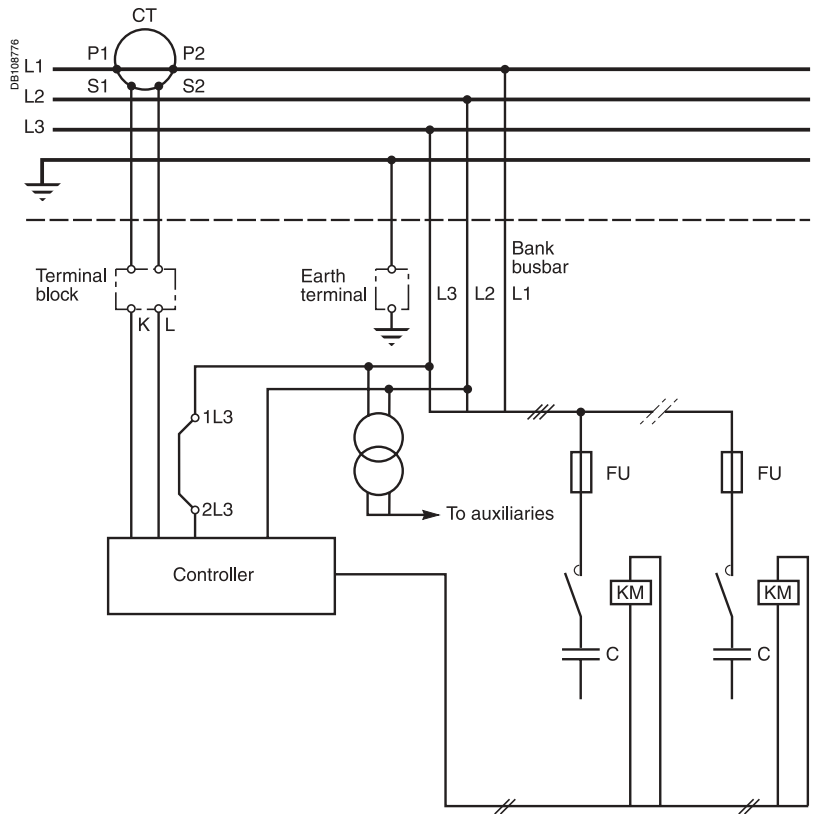

Fig. 4: schematic wiring diagram, standard type enclosures.
Electrical connection is based on the wiring diagrams (page 4, fig. 4 and 5). For power connection, a protective device must be provided in some cases.
- connect the information from the CT, S1 on terminal K and S2 on terminal L of the terminal block (fig. 4, 5 and 6).
- open this circuit to insert a normally closed contact from the installation (see page 4 fig. 4).